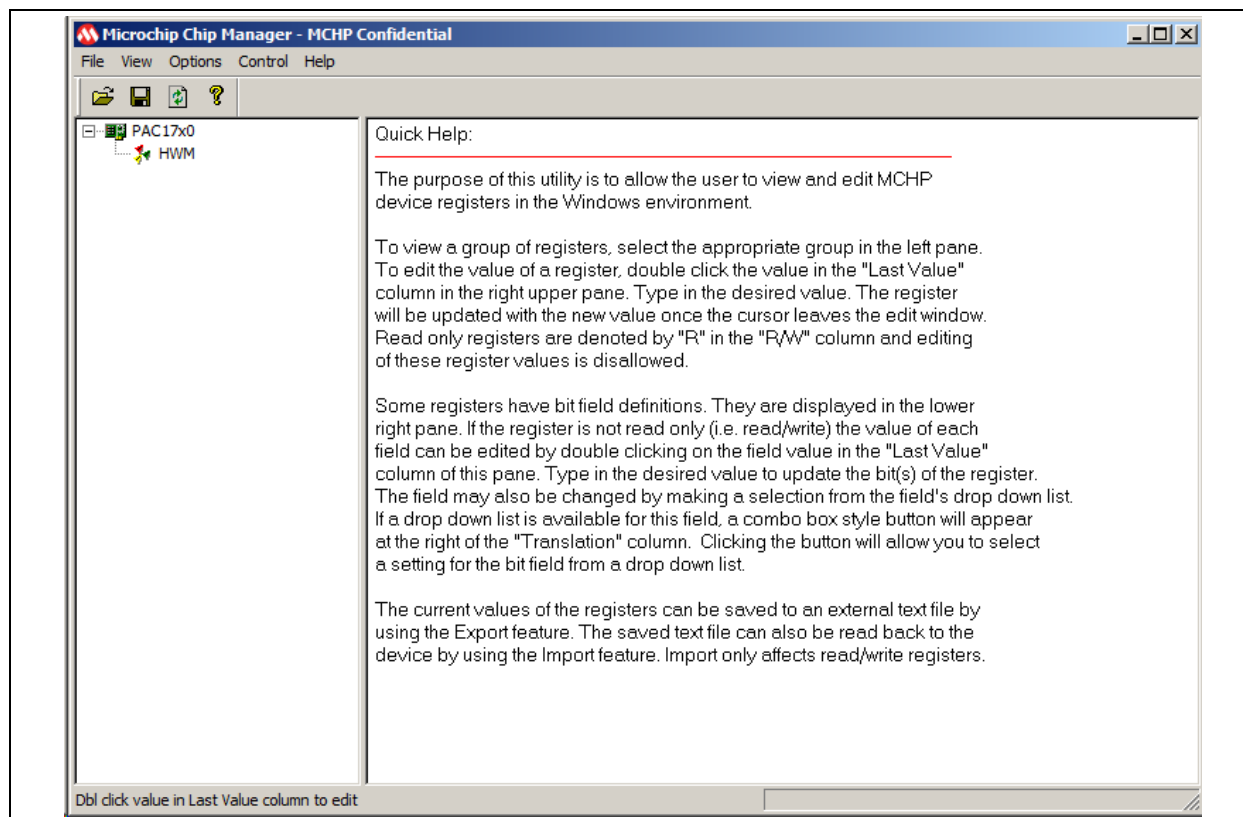

FIGURE 2-9: Microchip Chip Manager – Quick Help Window.
10. Start the software by either going to Windows *Start button > All Programs > Microchip > Microchip Chip Manager* or by double-clicking the software icon () on the desktop. The evaluation board software will initialize and the Microchip Chip Manager with the Quick Help screen appears (see Figure 2-9).